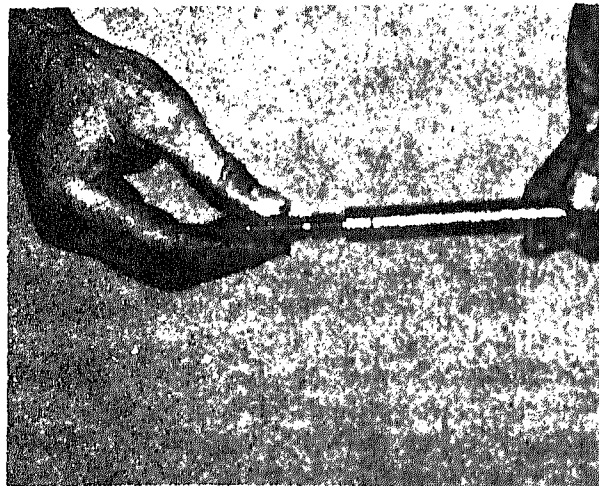

Fig. 3-2-2. Checking push-tube socket end with adjusting screw
3. Check socket of push tube with ball end of a new rocker lever adjusting screw, Fig. 3-2-2, or with a $\frac{1}{2}$ in. [12.7000 mm] check ball which should "blue in" 80% of seat area; spherical inside diameter new is 0.4995/0.5005 in. [12.6873/12.7127 mm].